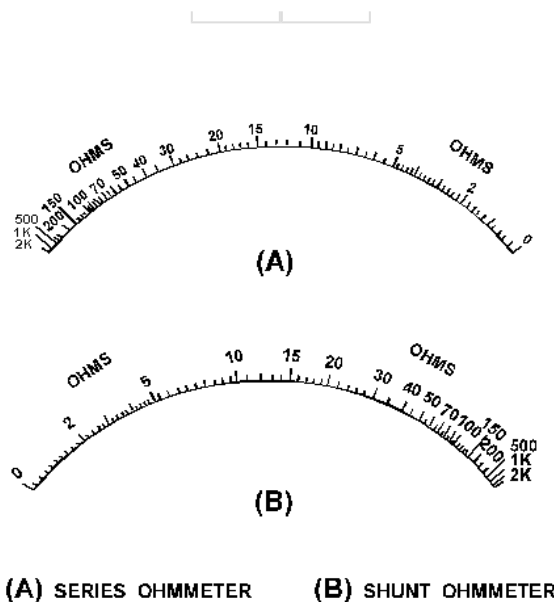
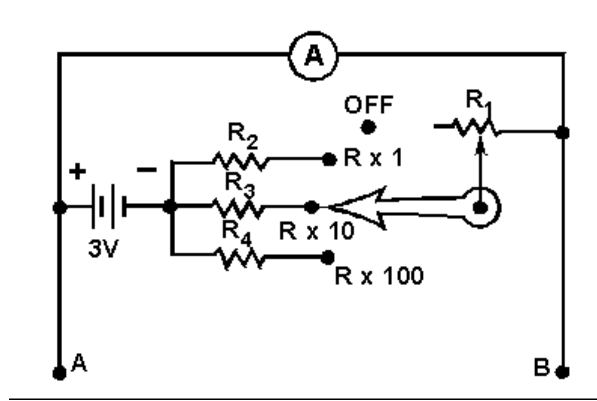

Figure 1-34.—Series and shunt ohmmeter scales.
Figure 1-35.—A shunt ohmmeter with internal range resistors.
The ohmmeter described to this point is known as a series ohmmeter, because the resistance to be measured is in series with the internal resistors and the meter movement of the ohmmeter. Another type of ohmmeter is the SHUNT OHMMETER. In the shunt ohmmeter, the resistance to be measured shunts (is in parallel with) the meter movement of the ohmmeter. The most obvious way to tell the difference between the series and shunt ohmmeters is by the scale of the meter. Figure 1-34 shows the scale of a series ohmmeter and the scale of a shunt ohmmeter.
Figure 1-34(A) is the scale of a series ohmmeter. Notice "0" is on the right and "∞" is on the left. Figure 1-34(B) is the scale of a shunt ohmmeter. In the shunt ohmmeter "∞" is on the right and "0" is on the left. A shunt ohmmeter circuit is shown in figure 1-35.
In figure 1-35, R1 is a rheostat used to adjust the ∞ reading of the meter (full-scale deflection). R2, R3, and R4 are used to provide the $R \cdot 1$, $R \cdot 10$, and $R \cdot 100$ ranges. Points A and B represent the meter leads. With no resistance connected between points A and B the meter has full-scale current and indicates